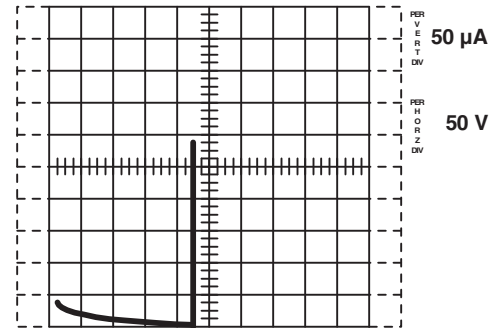

Fig. 2 - Drain-source breakdown voltage
9. Connect the device using the **left/right** switch. Increase the collector supply voltage using the **variable collector supply** control until the current (as indicated by the trace on the screen) reaches 250 μ A. (see figure 2.) Read BV_{DSS} from the screen.